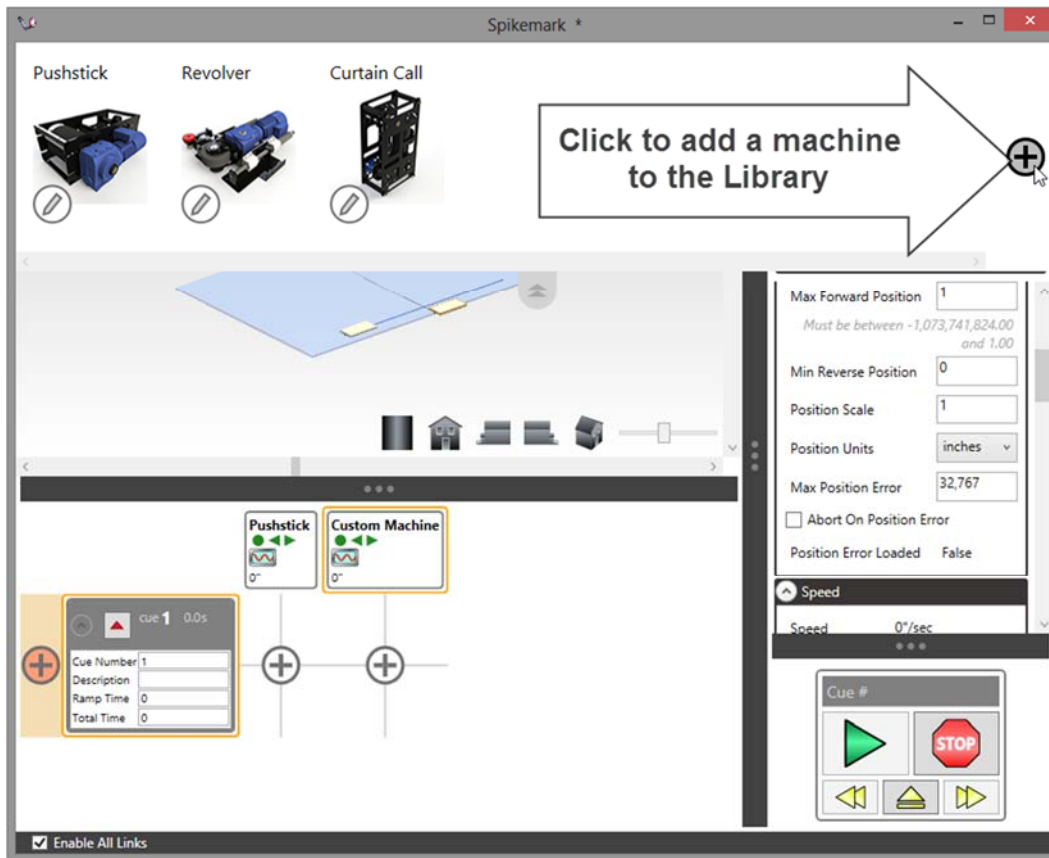

Figure 170
5. Click the “+” button on the far right side of the Machine Library panel (Figure 170).